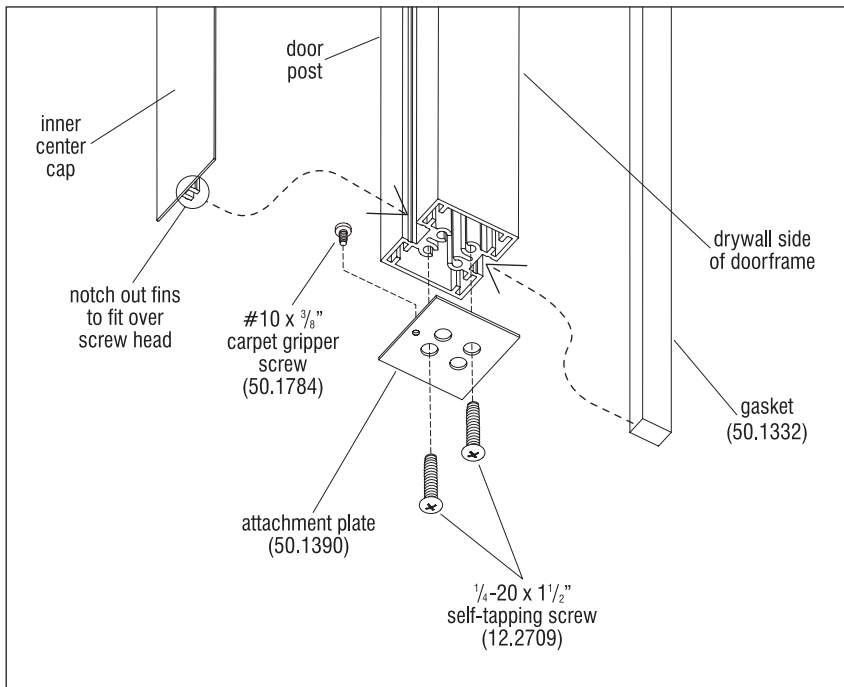

Figure 1 - Door Post To Drywall Connection
Note: In addition to the standard door frame, a door post to drywall kit is provided when a door frame starts directly from drywall. The bottom end of the frame that the kit is attached to must be cut $\frac{1}{16}$ " shorter to make room for the attachment plate at the bottom of the post (Figure 1).
1. Start by removing the outer center cap (not shown) from the frame that butts up to the drywall. This can be put into stock because it will not be needed in this condition (Figure 1).